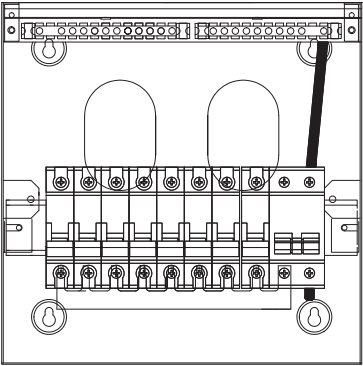
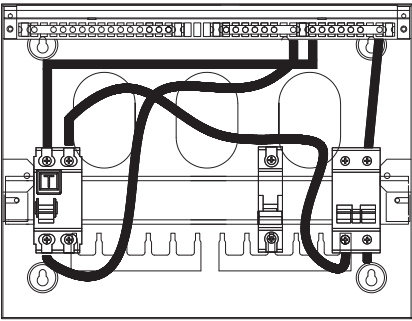

Fig4
Fig5
- 5.1 Cut, dress and connect circuit conductors to appropriate MCBs, RCD, neutral and earth terminals. (Fig. 4 and Fig.5)
- 5.2 Make sure that each earth and neutral outgoing circuit is correctly made to its corresponding numbered terminals. (Fig.4 and Fig.5)